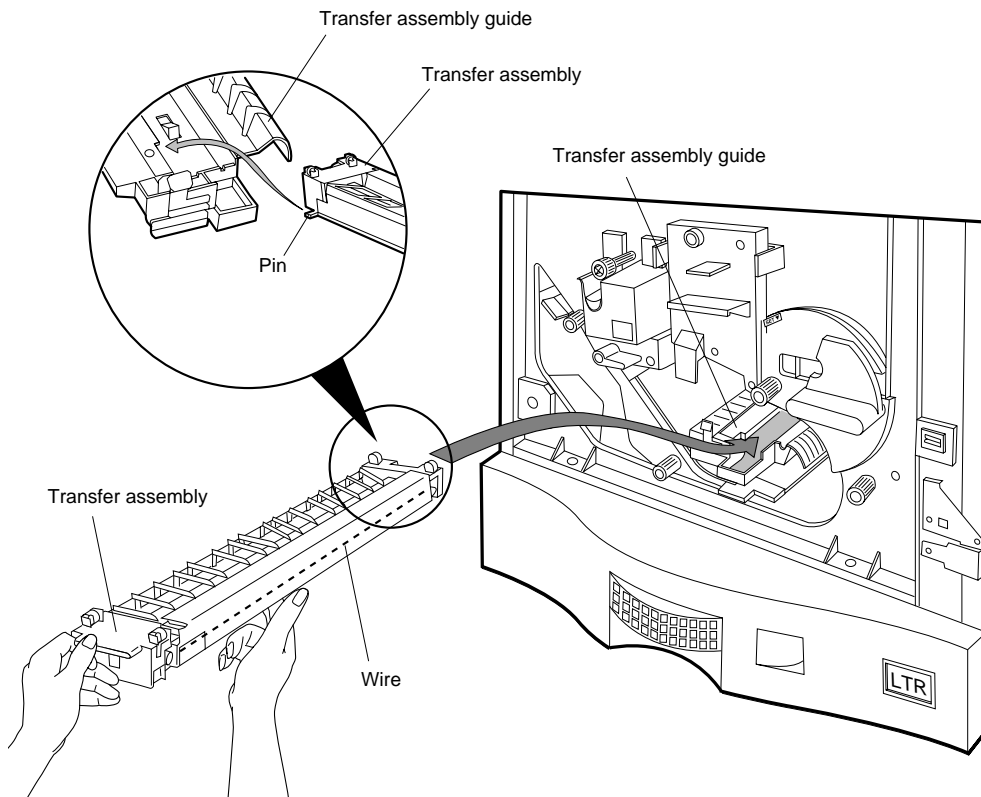

Figure 4-24 Removing the Transfer Assembly
3. Push in and pull up on the transfer assembly to free it from the guide assembly as shown in Figure 4-24. Lift the transfer assembly out of the guide assembly.